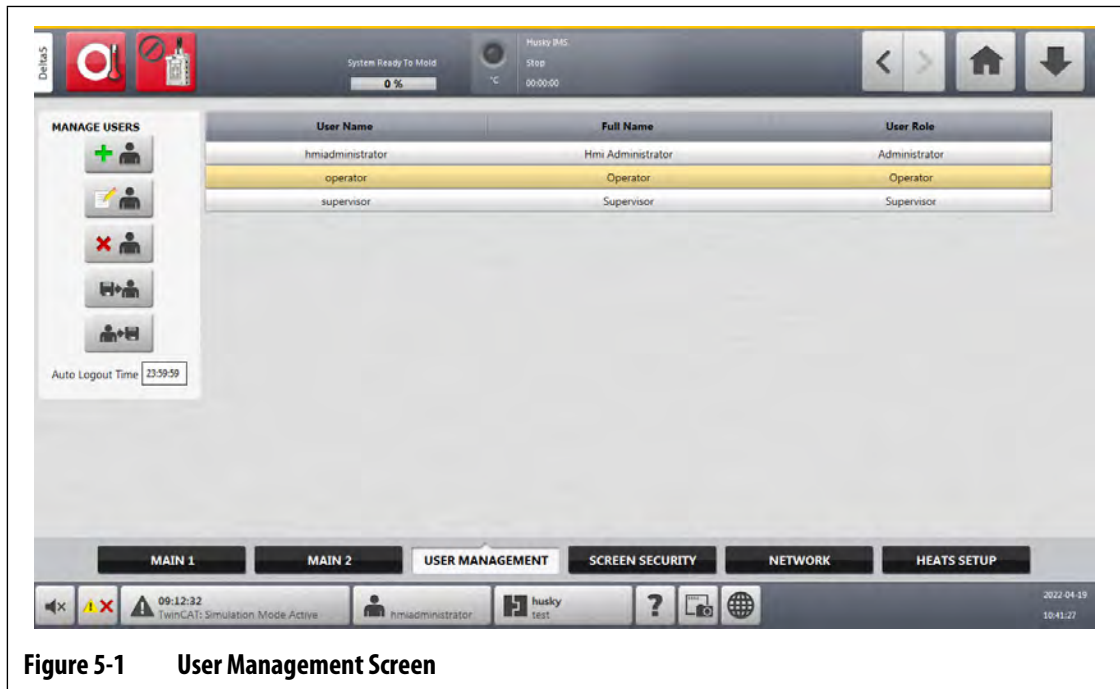

Figure 5-1 User Management Screen
3. Touch the **User Management** tab at the bottom of the System Setup screen. Refer to Figure 5-1.